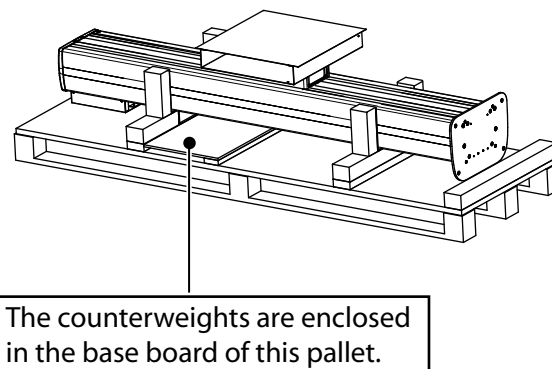

Fig. 4-63 Lifting Wallstand off the pallet
5. With help from at least two persons, lift the Wallstand, as indicated in the figure below. Lift the Wallstand off the pallet, see **Fig. 4-63**.